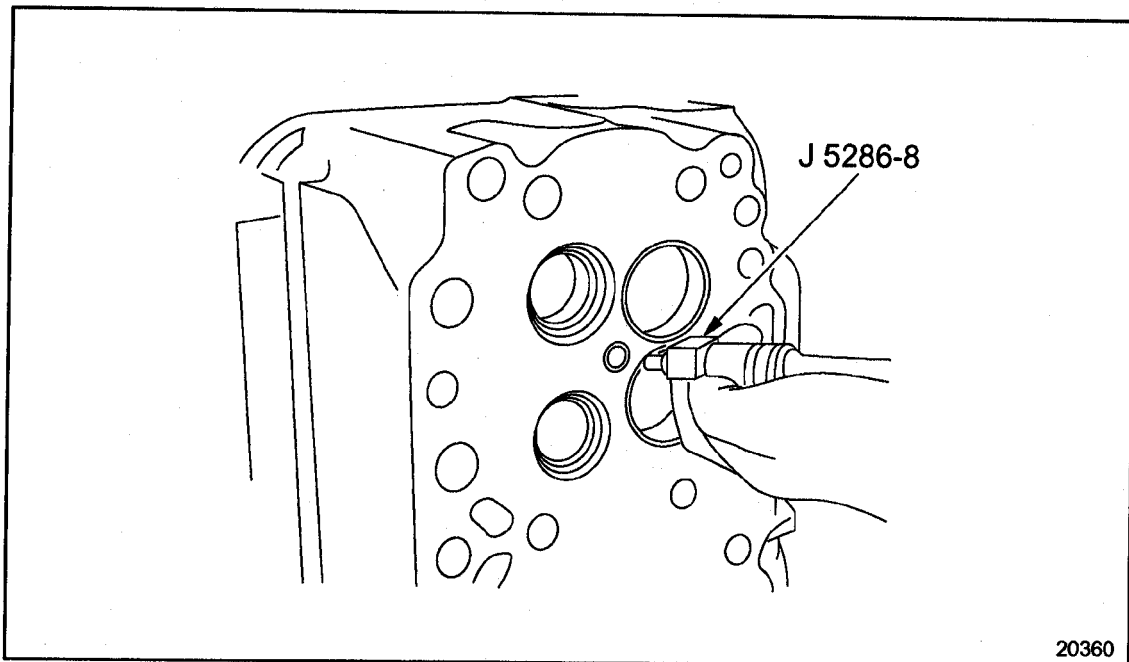

Figure 2-24 Refinishing Injector Tube Recess
- [a] With the cylinder head firedeck in a workable position, insert the tube tip refinisher tool, J 5286-8, into the injector tube. See Figure 2-24.
- [c] Remove the chips from the injector tube with compressed air. See Figure 2-24.